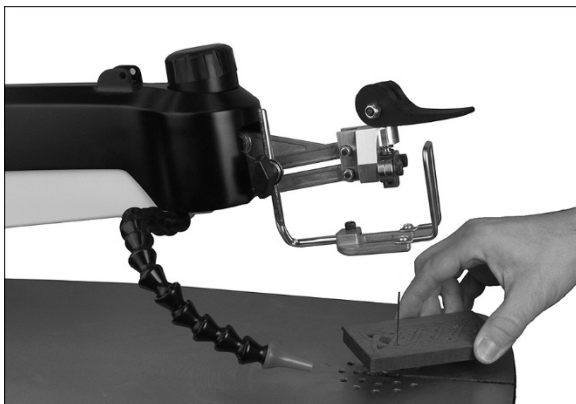

Figure 27: fretwork cutting
2. Release clamp lever (D, Figure 27) and raise arm.
4. Lower arm and tighten clamp lever (D).